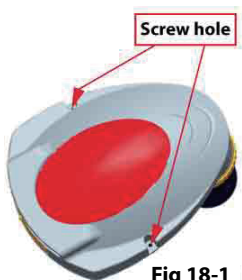

Fig 18-1
- B. choose the proper place to install, mark the position for hole drilling, and drill two hole 3-4cm deep; (see Fig. 18-1/2)